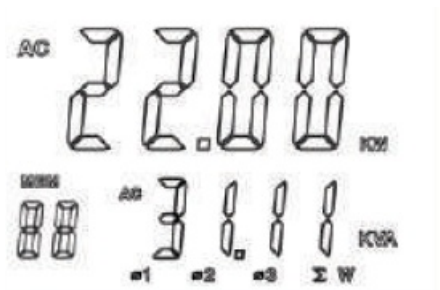

Figure 13
6. After recording the current power measurement value of the third phase, finally, press Σ and hold for 1seconds to display the 3-phase sum of active power value and apparent power value, as in figure 13.